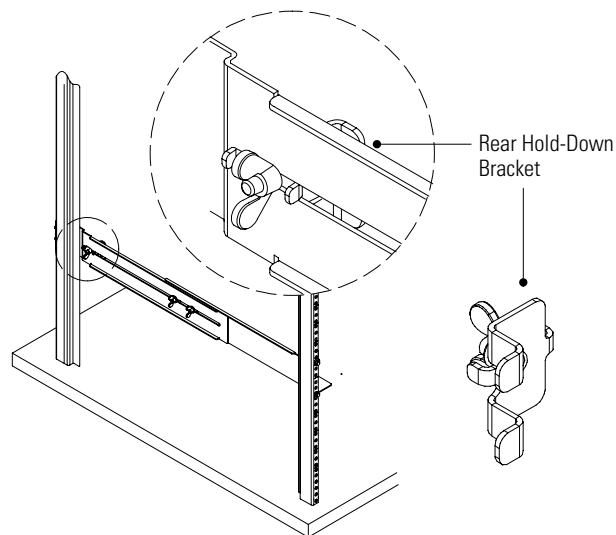

Figure 16. Securing the Back of the EBM
12. Attach the rear hold-down brackets to the rail and slide the brackets into the slots on the EBM rear panel (see Figure 16).